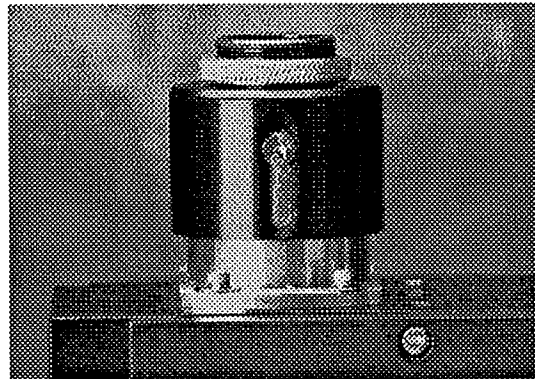
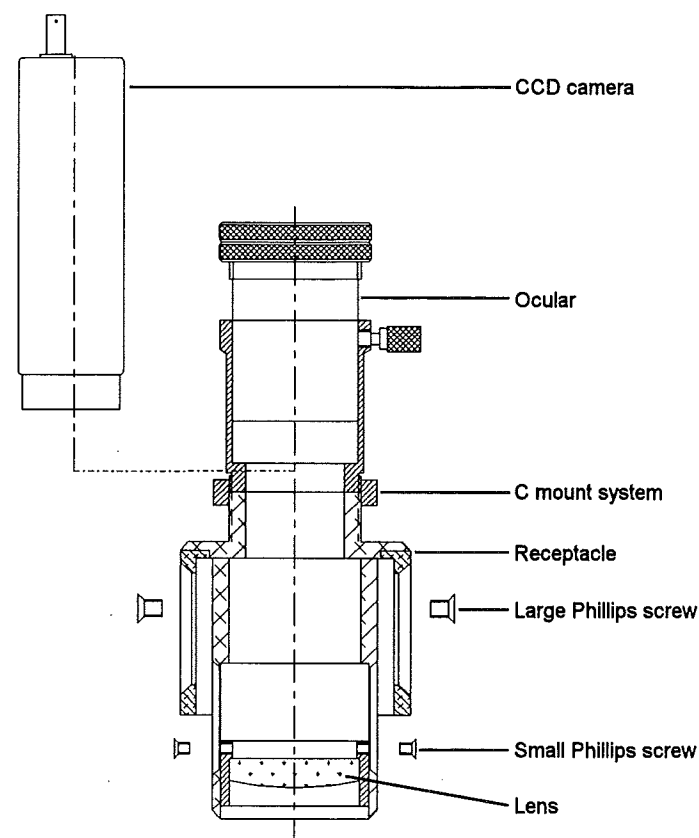

Figure 4. Receptacle on camera interface
Figure 5. Camera/ocular receptacle assembly (shown with ocular installed)
- a) To change the lens position, first remove the 2 large Phillips screws which attach the receptacle to the camera interface (located on the input collimator). Then remove the camera along with the receptacle assembly. Figure 4 shows the receptacle on the camera interface; Figure 5 shows the positions of the various components.